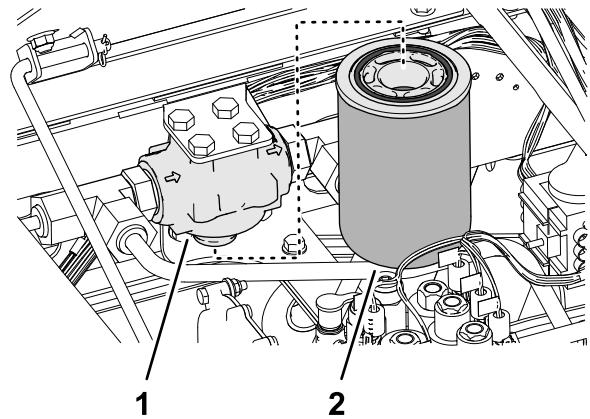

Figure 163
3. Clean the area around the charge filter and filter head (Figure 163).